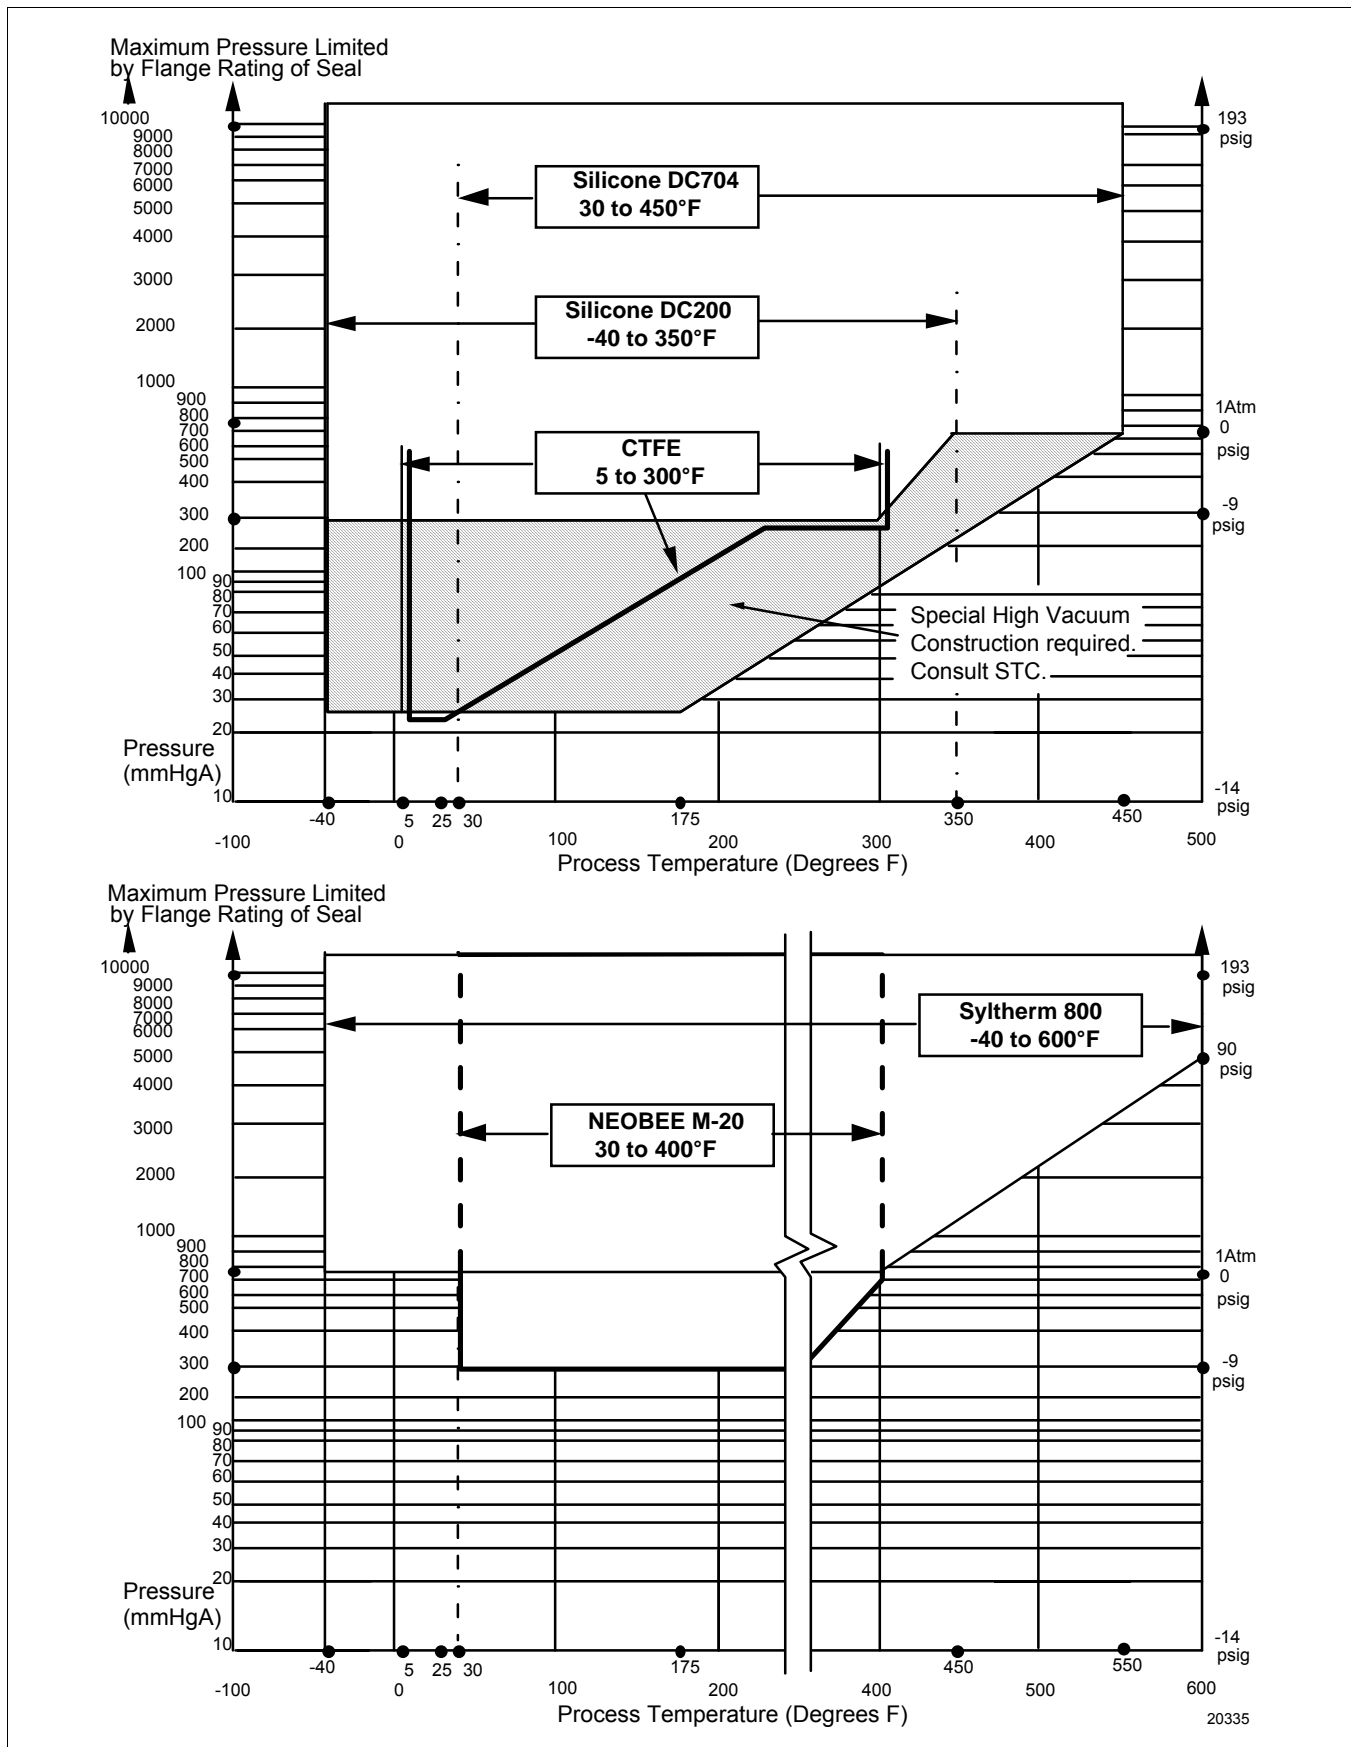

Figure 13—ST 3000 Remote Seals operable limits for pressure versus temperature
* See Figure 13 for Fill Fluid temperature limits.